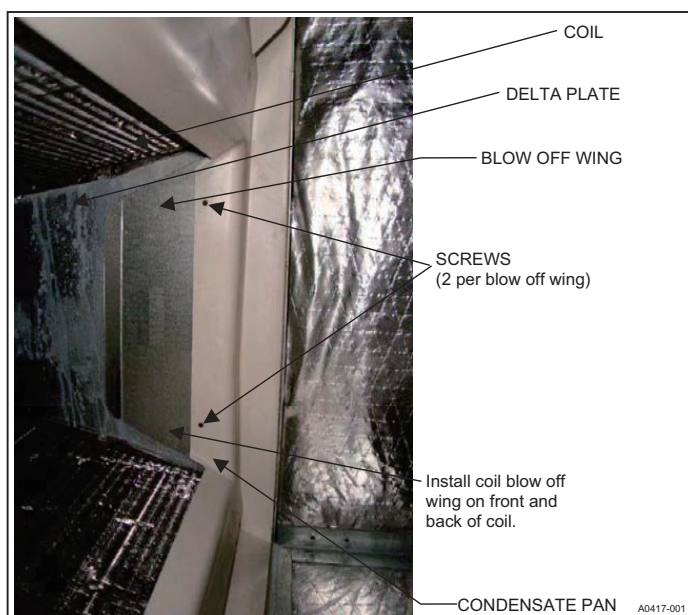

Figure 5. Coil Blow Off Wing Installation
When installing a coil blow off wing, make sure that each notch in the coil blow off wing (see Figure 5) slides around the anchor screw with the bottom of the notch fully set against the screw. Ensure that coil blow off wing is installed with the flange bending away from the coil data plate.
8. For horizontal right applications, install front and back coil blow off wings (blow off wings shipped as loose parts with the unit). Locate 4 screws securing coil data plates to coil/condensate pan. Loosen the screws. Slide each coil blow off wing between the condensate pan and the coil data plate. Tighten screws to securely anchor coil blow off wings. Refer to Figure 5.